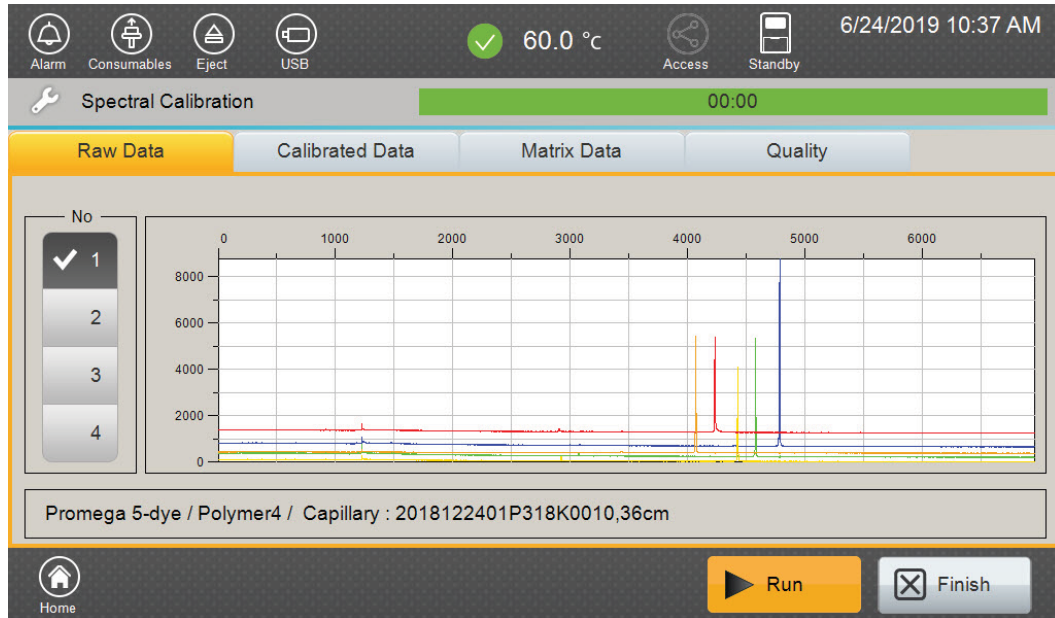

Figure 38. Spectral Calibration 'Raw Data' tab screen.
1. Following the run, the 'Raw Data' tab (Figure 38) will be displayed. The minimum peak height for spectral calibration is 500 relative fluorescent units (RFU) and the maximum peak height is 32,767RFU.